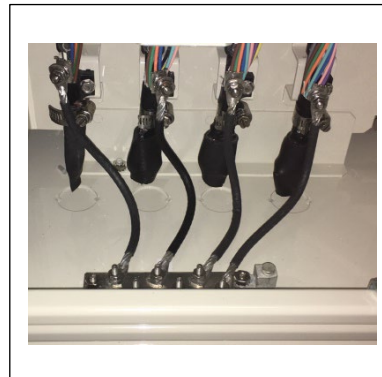

Figure 10
4. Secure a bond clamp to the cable and use a bond strap to connect to the bond bar on the bottom of the cabinet (Figure 10).